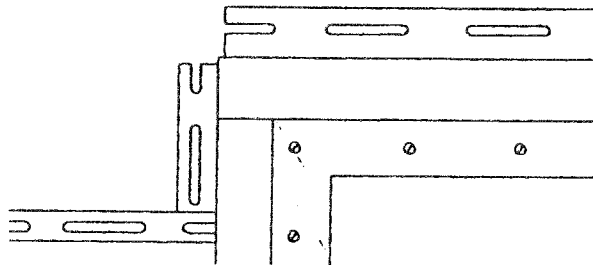

FIG. 4
- D. At corners, a few simple cuts of J - Channel or MHWM make good looking and functional joints. (See Figure 4)